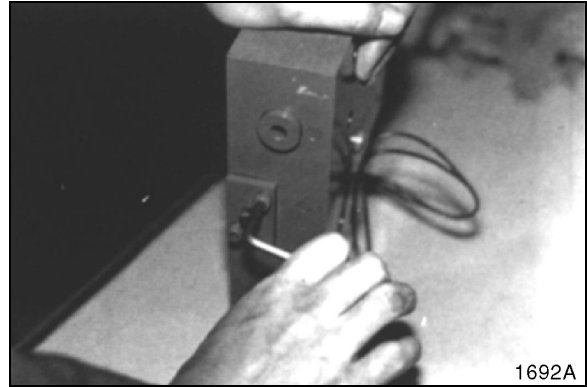

Figure 98
7. Install plate with hex bolt and torque to 1.2 – 1.5 kg m (8.68 – 10.85 ft lb). See Figure 98.